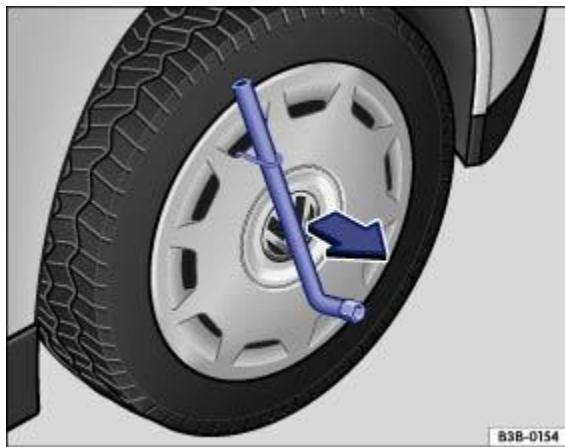

Fig. 201 Removing the wheel cover.
- ② Take the box spanner and wire hook from the vehicle toolkit ⇒ Vehicle toolkit .
- ② Insert the wire hook into one of the holes in the wheel cover.
- ② Push the box spanner through the wire hook ⇒ Fig. 201 and remove the wheel cover in the direction of the arrow.